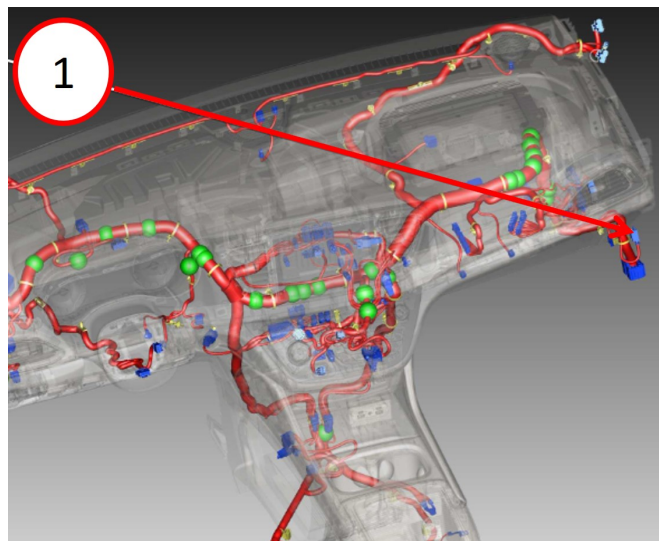
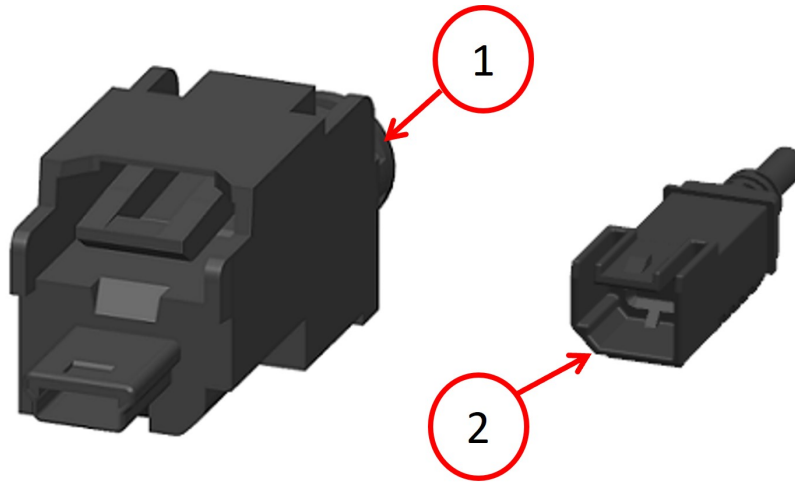

Fig. 2
Fig. 3
2. Connect the instrument panel black wiring harness connector (Fig. 2) , to the XY314B single wire body wiring harness connector (Fig. 3) .